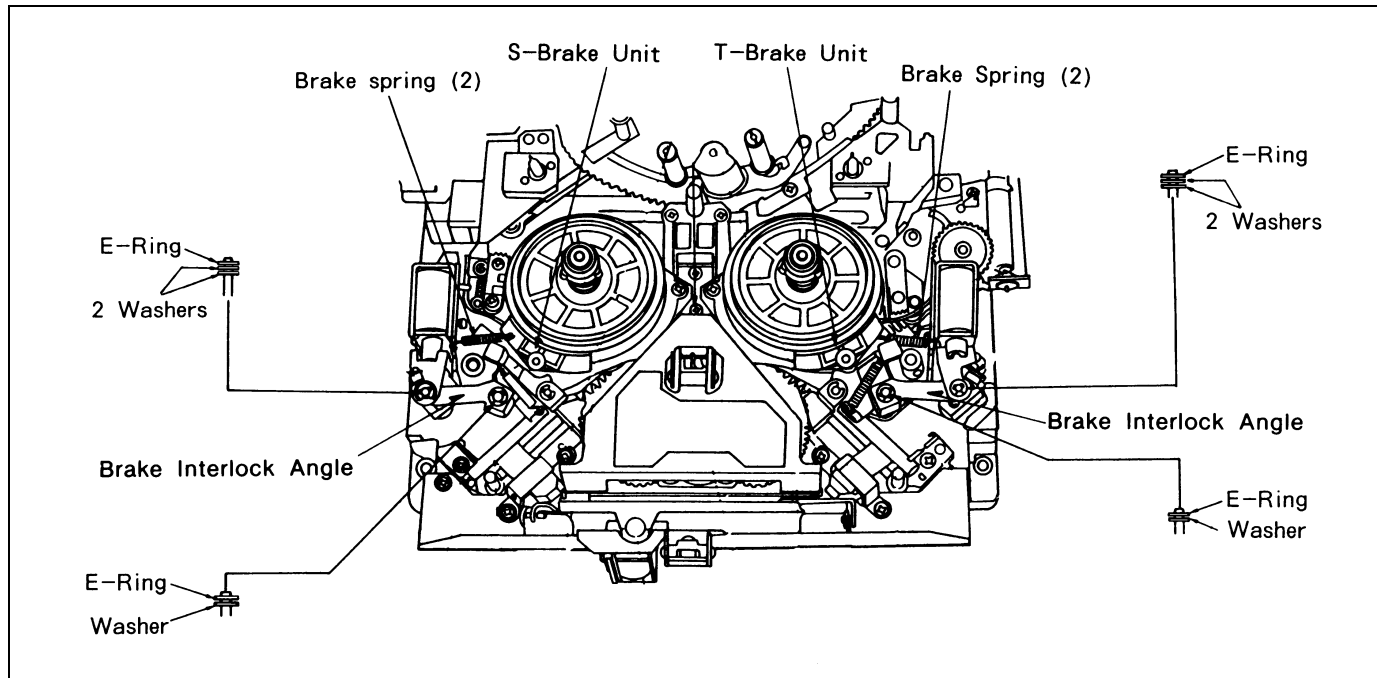

Figure 7-4-1 Removal of S-Brake Unit or T-Brake Unit
3. Remove 4 E-Rings, 6 Washers and 2 Brake Spring (2) as shown in figure 7-4-1.
4. Remove 2 Brake Interlock Angle and pull out S-Brake Unit and T-Brake Unit as shown in Figure 7-4-1.